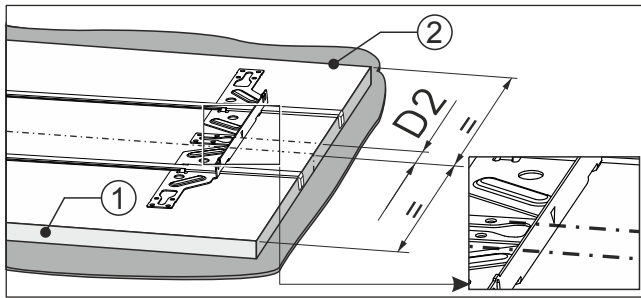

Fig. 97
- The marking on the mounting crossbar aligns with the marking Fig. 97 (D2).